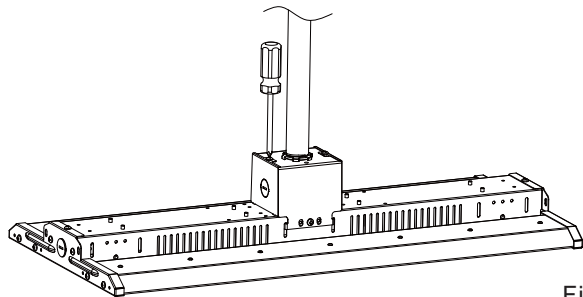

Figure4
- Step4. Lock side brackets with screw driver (Figure 4).